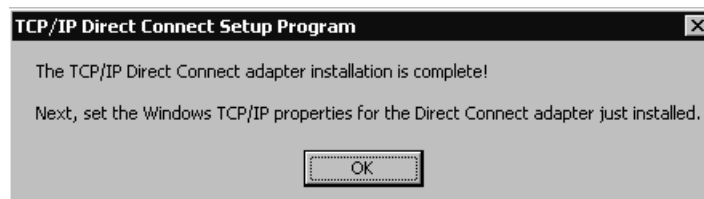

Figure 5-6. Installation Complete
4. Once you have defined the Link click **OK** to continue the install. Installation may take several minutes depending on your server. An installation complete message will tell you once the software has been installed (Figure 5-6). Click **OK** to exit.